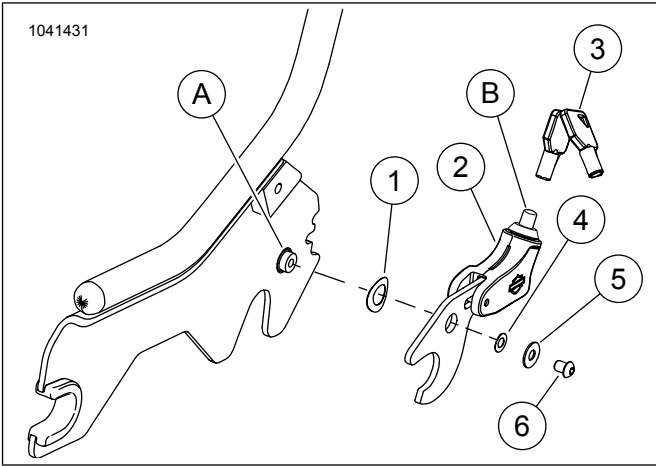

Figure 2. Service Parts, Detachable Locking Latch Kits
Refer to Figure 2 and Table 1.
1. See Figure 2. Remove right latch from detachable accessory.
- a. Remove screw (6).
- a. Place **new** spring washer (1) and latch assembly (2) on pivot stud (A).
- b. **Painted detachable frame:** Place **new** small washer (4) against end of pivot stud.